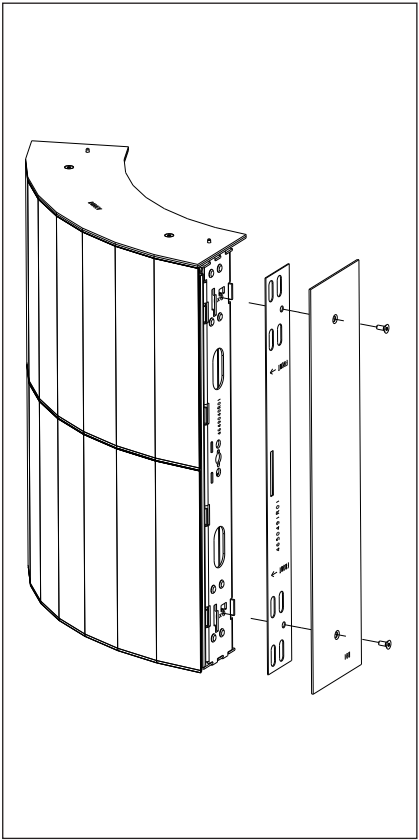

Figure 2: Bring Side Border Spacer & Side Border into Position
4. Bring the side border spacer and side border into position as shown in **Figure 2**. Insert #10-32 keps nuts (HC-1289) into the rectangular cutouts in the side members of the cabinet to line up the border with the border spacer mounting holes. Use a 1/8" Allen wrench to install the #10-32 machine screws (HC-1484) through the border spacer and border into the previously installed #10-32 keps nuts in the side of the cabinet.